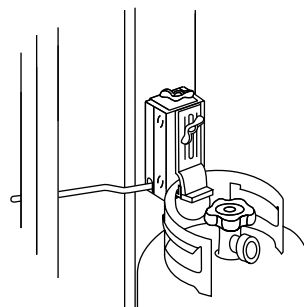

Figure 4
- b) Loosen the tank lock wing nut. Swing the tank lock down. Tighten the wing nut. Figure 4.